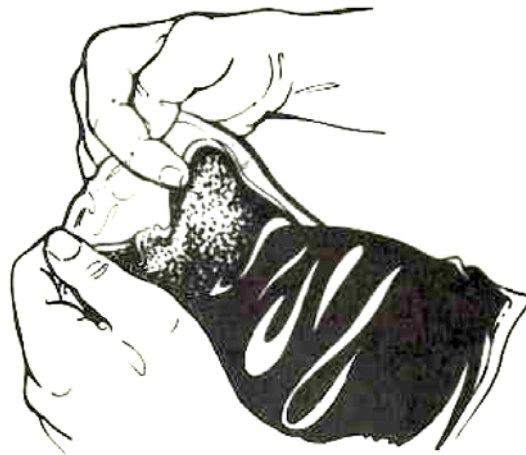

Figure 8
- 6.3 Alternately squeeze ends of pouch forcing compound rapidly back and forth, strip compound from corners of pouch between fingers. Mix until color is completely uniform – 30 to 40 VIGOROUS SQUEEZES. DO NOT EXCEED 1 MINUTE. (Figure 8)